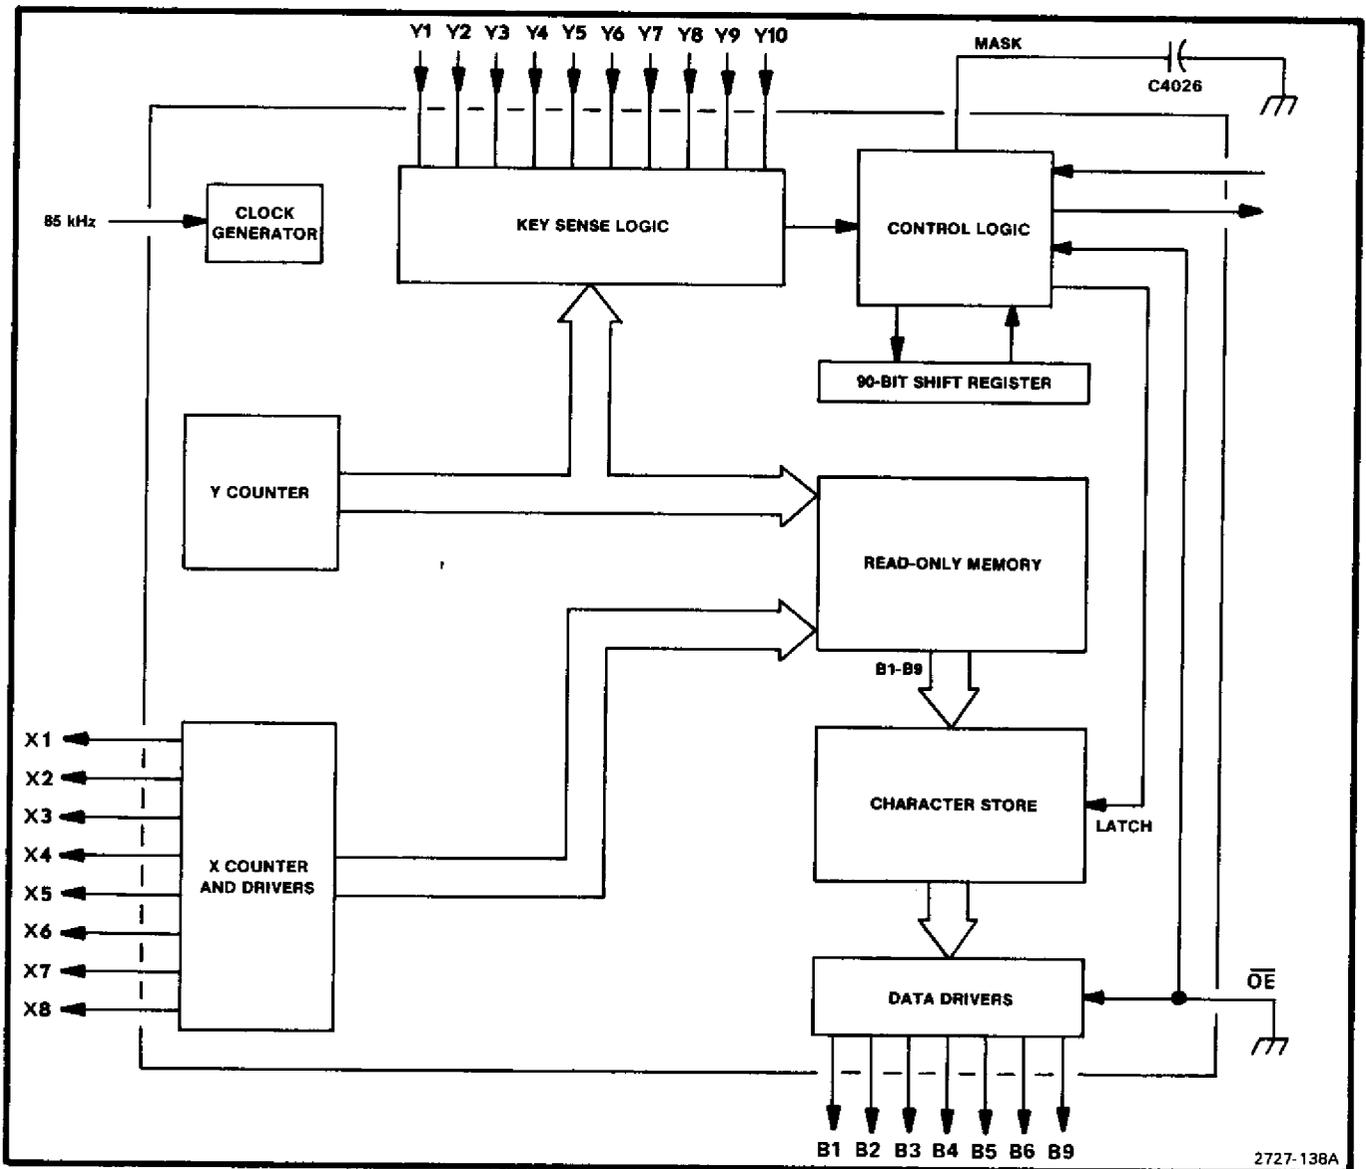

Fig. 5-35. The keyboard encoder.
**Encoder Logic.** The logic inside the keyboard encoder that scans the matrix, senses switch closures, handles the bookkeeping for which switches changed, and outputs the code for new closures, as shown in Fig. 5-35.